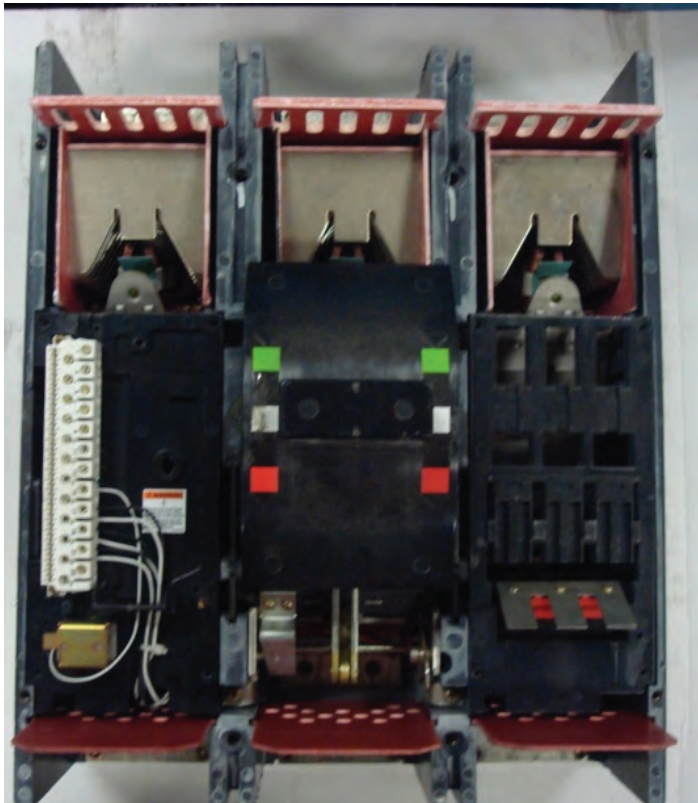
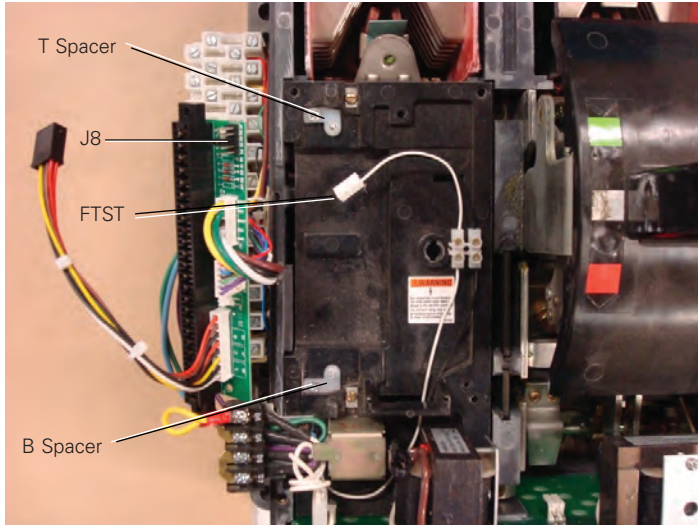
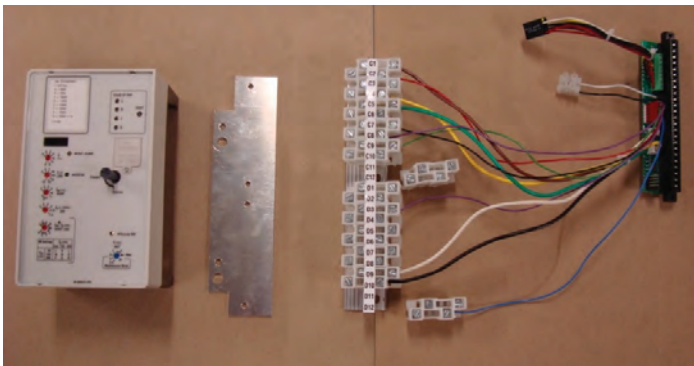
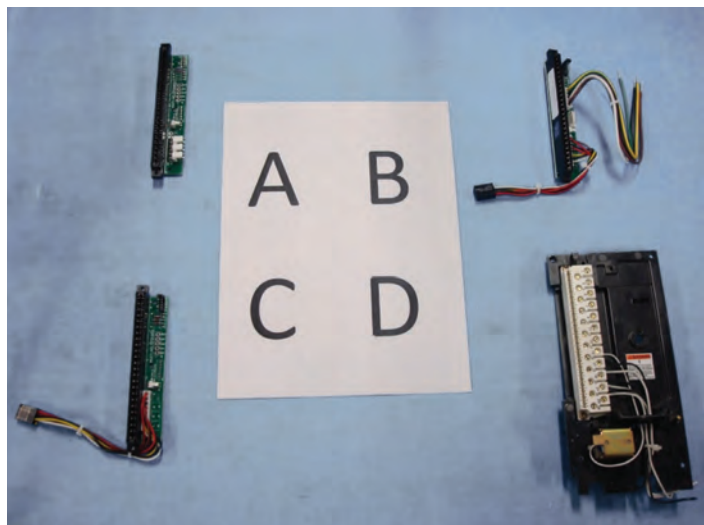

Figure 6C. Trip Unit Removed and Type "D" Edge Connector Revealed.
Figure 13. New Style Edge Connector Board Prepared for installation on an RD Deck.
Figure 25. Retrofit Parts.
Figure 27. Possible Edge Connector Assemblies in the Field.
Note: The edge connector shown in Figure 6C is a Type "D" edge connector, as referenced in Figure 27 from the four possible types of edge connectors.
Figure 13 shows the preparation for mounting the new style edge connector boards to an existing R-Frame Domestic (RD) deck that originally had a white terminal block, as in Figure 6C. The points to note are where the "T" (top) and "B" (bottom) adapter/spacers have been installed. They can be seen in place, held to the deck with Phillips head screws, and the male threads of the screws for the edge connector board protruding from the back side of the adapters (they look similar to an "L" shaped piece of nylon).
Note: The edge connector must sit on top of the nylon spacers and held on with the two nylon hex nuts. The addition of a two-position connector for the Flux Transfer Shunt Trip (FTST) leads has also been added in Figure 13.
Figure 25 shows the components that are included in an RG Retrofit Kit. The trip unit is a typical sample, and the one shown in Figure 25 has the visible option of Arc Reduction Maintenance System (ARMS) in a ground fault (GF) trip unit. Actual kit trip units will vary, depending on order requirement. Contents include:
Figure 27 shows the four possible connectors on existing RD breakers with RES trip units.
The FTST connections, white and black wire pair from original terminals 14 and 15 (or connector J6), will need to be attached to the new wires and terminal block that connect to the retrofit edge connector board at J6 (black to black, white to white). To transfer the three sets of CT wires found in a 3-pole 1600A frame with edge connector board (Figure 27, Item A), to the RG retrofit edge connector board as seen in Figure 25, complete the steps that follow.
3. 1600A non-ground fault frames with “old” white terminal block/edge connector (Type D in Figure 27) are all hard wired (no connectors) and must be removed and replaced with Eaton’s new terminal block system.
5.5 Four Possible Edge Connector Types Exist for RD Breakers with RES Trip Units: (Refer to Figure 27)
1. Fig. 27, Ref. A - Used in 1600A non-GF 3-pole frames. All three phases and FTST have white 2-pin pluggable mating connectors. There is only one override diode and it is fixed.
2. Fig. 27, Ref. B + C - Used in 2000A and 2500A non-GF frames that have an Auxiliary CT board inside referred to as a “green board”. The override diode is jumper (J8) selectable per the frame rating.
3. Fig. 27, Ref. B + C - Used in all three GF frame ratings (1600A, 2000A, and 2500A) with “green board”. The override diode is jumper (J8) selectable per the frame rating.
4. Fig. 27, Ref D - White terminal block/edge connector – Oldest type used for all three frames, GF or non-GF, 3-pole and 4-pole – all CT and FTST connections are wires that terminate in the terminal block via screw down terminals. Override diode (frame rating specific) installed in terminals 10 + 11.